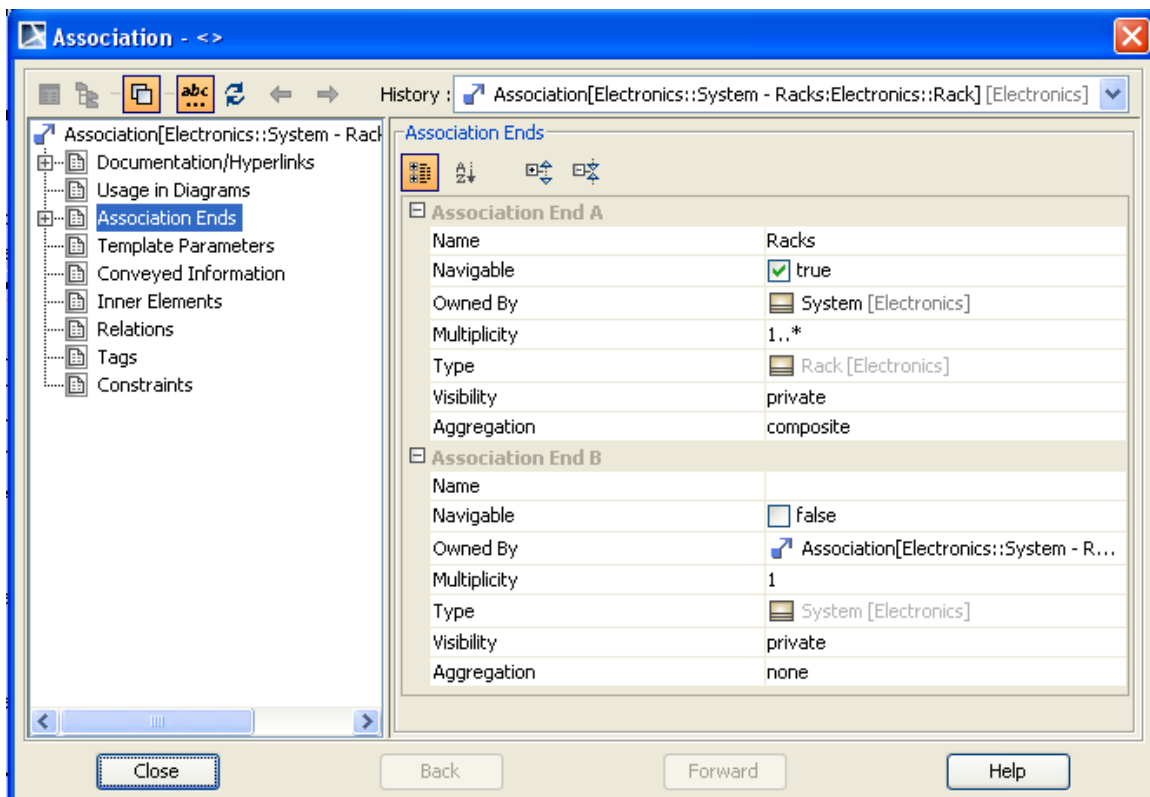

Figure 9.2 Association properties box, Association Ends table. Multiplicity under Association End A is set to 1...*
- ii. In the Association Window, select Association Ends (see Figure 9.2)